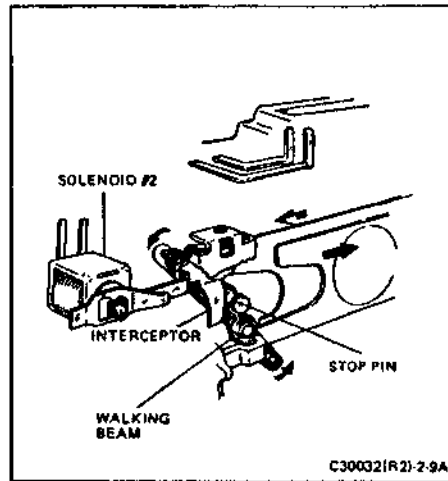

FIGURE 2-9A SOLENOID S2 OPERATION
4. Installing a flash bar in the camera flash socket switches the ECM to the flash mode. As previously explained, at a point in the picture taking sequence (flash mode), solenoid #2 is energized. Fastened to the plunger is the pull down bar. When the plunger pulls this bar down, it moves the interceptor into the position where it will intercept a pin (the stop pin) on the walking beam (Figure 2-9A). Now when the shutter blades move towards the open position, they will be interrupted by the mechanism just described which means that the maximum size of the blade opening (aperture) is determined by the focus setting of the camera. As the camera (and thus the flash lamp) is moved closer to the subject, the maximum aperture is reduced so that a correct exposure will result. The reverse (greater distance/greater aperture) is also true.